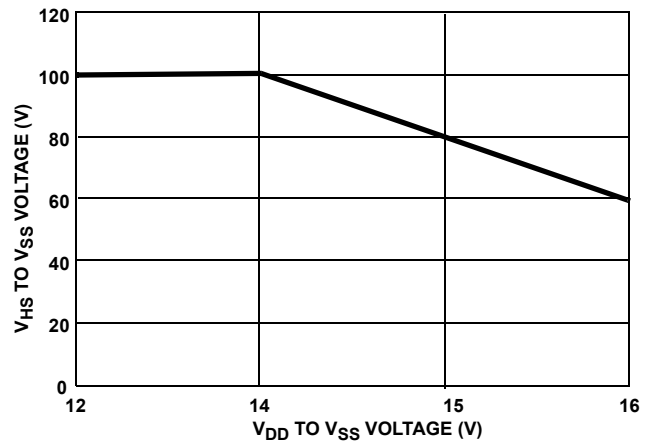

FIGURE 16. VHS VOLTAGE vs VDD VOLTAGE
- The HIP2100 is capable of derated operation at supply voltages exceeding 14V. Figure 16 shows the high-side voltage derating curve for this mode of operation.